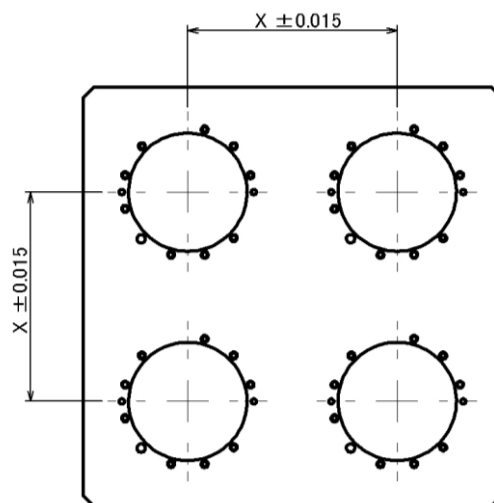

Figure 6-2 Adapter for use with multiple units
- When mounting multiple pallet clamping systems, the tolerance of the mounting pitch X must be within ± 0.015 mm as shown in Figure 6-2. In addition, the mutual difference from the table top surface to the surface of each pallet clamping system must be 0.020 mm or less.